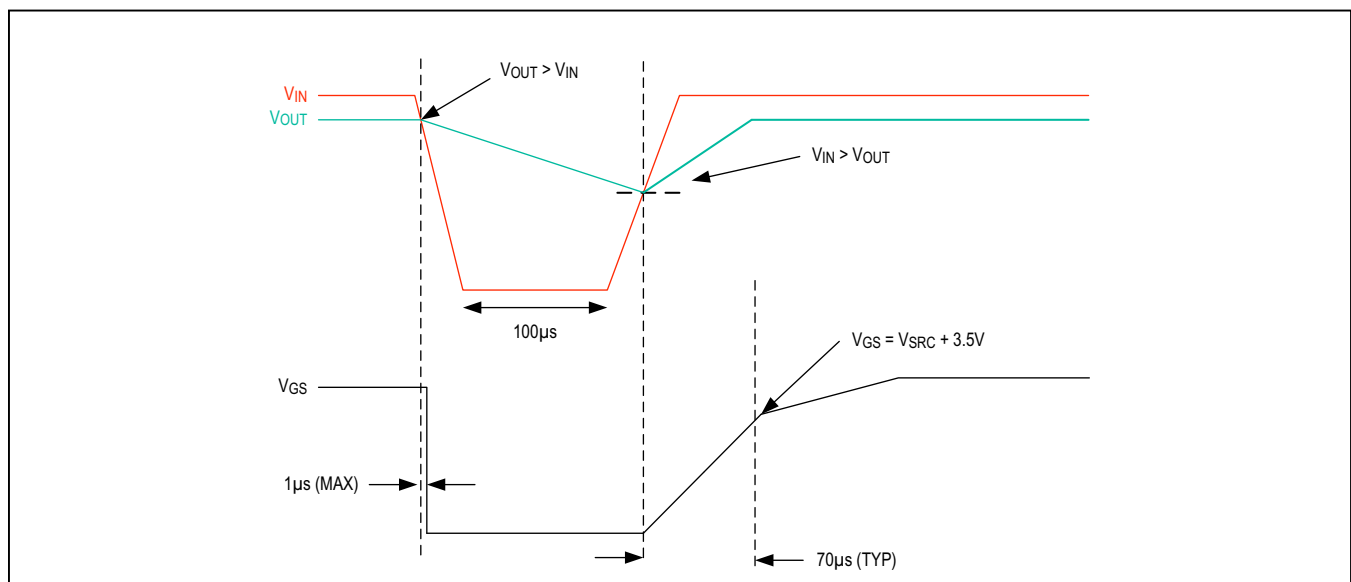

Figure 4. Short Power Interruption and Recover
In an automotive environment, systems usually experience brief power interruptions where the main supply is shorted to ground. The power interruption may last for several seconds; and the only source of power to system load is the output capacitance. To ensure fast recovery, an auxiliary input (VCC) helps keep the MAX16141/MAX16141A standby mode for 100µs (typ). When the main supply input (IN) recovers, the MAX16141/MAX16141A initiate a fast recovery mode that allows the gate to reach its peak voltage within 70µs (typ). See Figure 4 for more detail. Therefore, brief power supply interruptions will not affect operation of the load, as long as the load-side